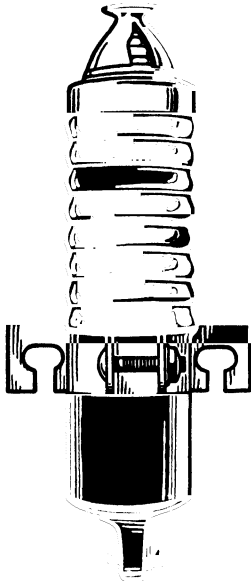
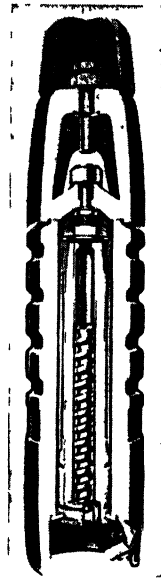

FIG. 6-14. External view of keystone expulsion-type arrester. (Courtesy Electric Service Mfg. Co.)
FIG. 6-15. Cutaway view of assembled expulsion arrester showing open series gap and arcing chamber. (Courtesy Westinghouse Electric Corp.)
**Expulsion-type Arrester. Construction.** As in other types of arresters, the expulsion-type arrester consists essentially of a spark gap connected in series with a so-called characteristic or arrester element. Both are housed in a porcelain housing as shown in Fig. 6-14. In the expulsion arrester the characteristic element consists of a hollow fiber tube which serves as the power arc quenching element (see Fig. 6-15).